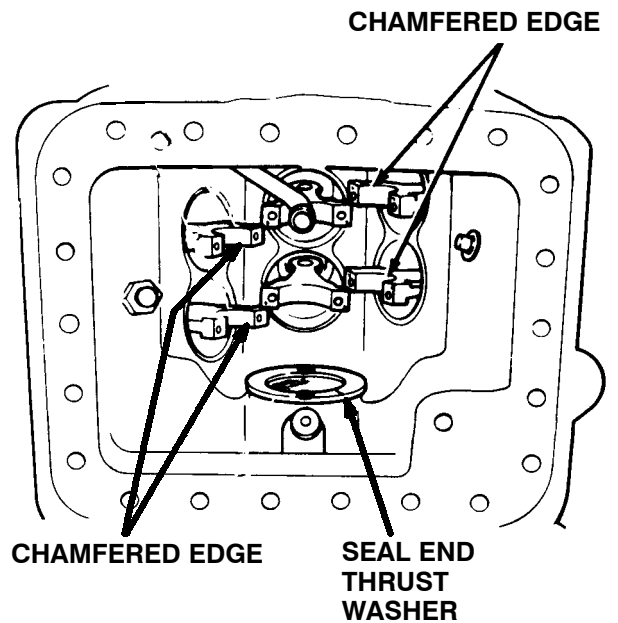

Figure 3-16. Installing Piston Rod Assemblies and Seal End Thrust Washer
2. Install the piston and rod assemblies up through the bottom of the crankcase and into the cylinders. Allow pistons to extend beyond the top of the cylinder to enable installation of piston rings. Pistons must be installed so that the chamfer, on the connecting rod, faces toward the crankshaft journals. Center rods on each crankshaft throw may be installed in either direction. (See Figure 3-16)
2. Install the seal end thrust washer on the two dowel pins. (See Figure 3-16) Ensure piston rods are pushed out of the way and install the crankshaft.